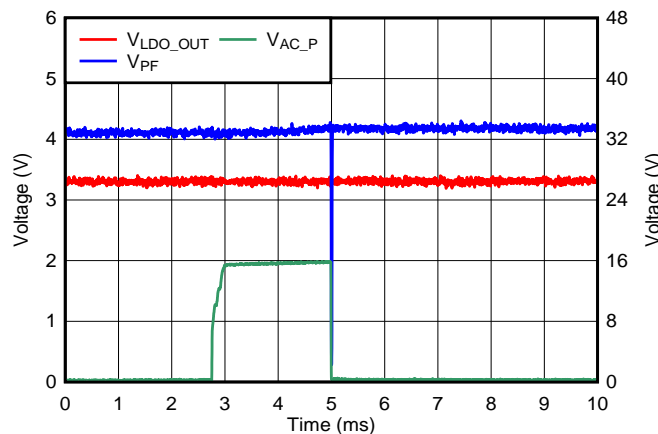

Figure 6. PF Signal Glitch
In Figure 6, the power-fail detect (PFD) trace and resistor divider was placed close to the AC\_P pin and as a result the power-fail (PF) signal glitches whenever there is a shunt event; see the TPS7A78 Feature Description section for details on the device active bridge control. Figure 6 shows the PF signal glitch.